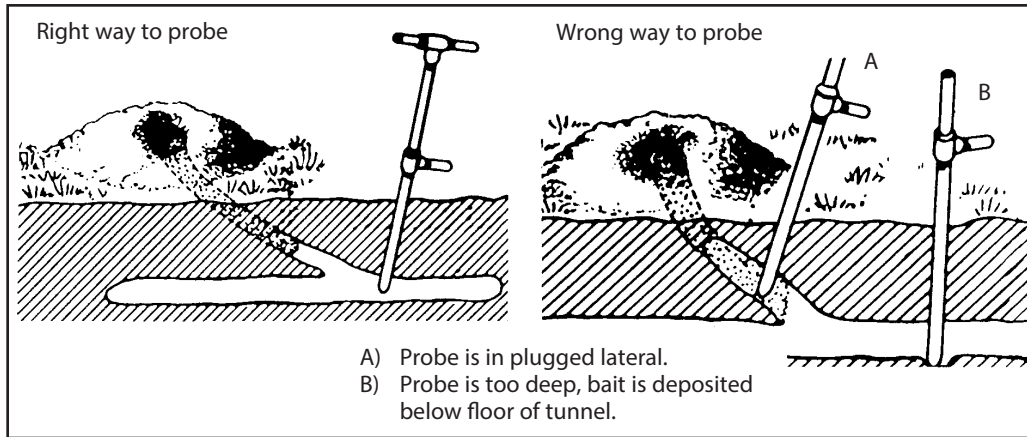

Figure 3. Right way and wrong way to probe.
2. Locate the main runway by probing the soil with a bluntly pointed probe, 6 to 8 inches from the mound on the side where the horseshoe-like depression is found (Fig. 3). When the probe drops into the runway, the release of ground friction will be felt.